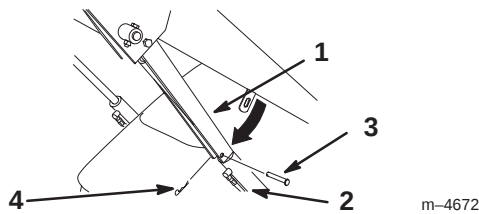

Figure 13
4. Remove the hairpin cotter and clevis pin securing the cylinder lock to the loader arm (Fig. 13)
5. Lower the cylinder lock over the cylinder rod and secure it with the clevis pin and hairpin cotter (Fig. 13).
5. Rotate the cylinder lock up to the loader arm and secure it with the clevis pin and hairpin cotter (Fig. 13).